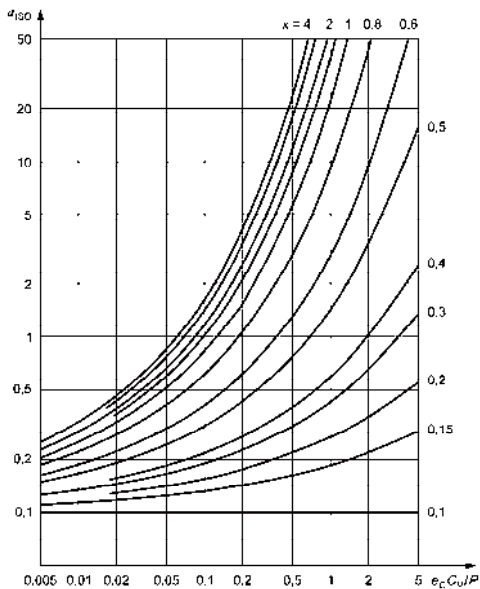

Fig. 6.13
- Fig. 6.13 for axial ball bearings